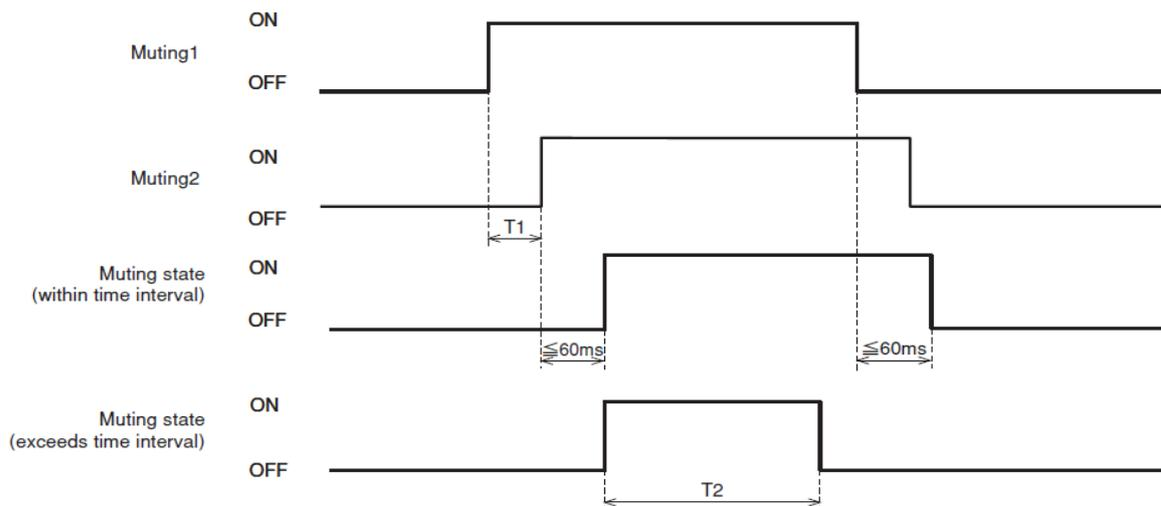

Figure 4-11 Muting sequence
- b) The two independent hard wired muting input signals are switched to ON state in the predefined sequence within the pre-set time interval. However, the switching interval between two input signals should not be 0 (Refer to figure 4-11).
- When the predefined (preset) maximum muting time T_2 exceeds (1 minute and above) (Figure 4-11).
Figure 4-11 shows the muting sequence.